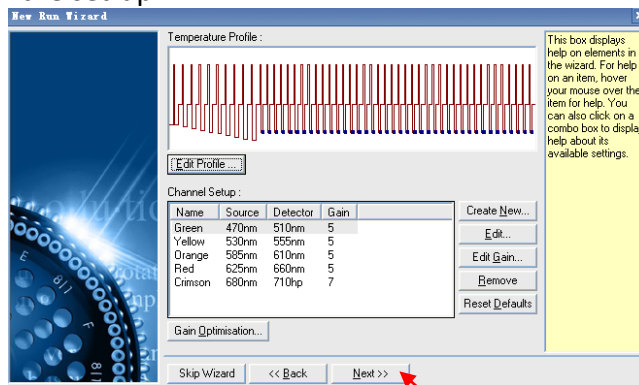
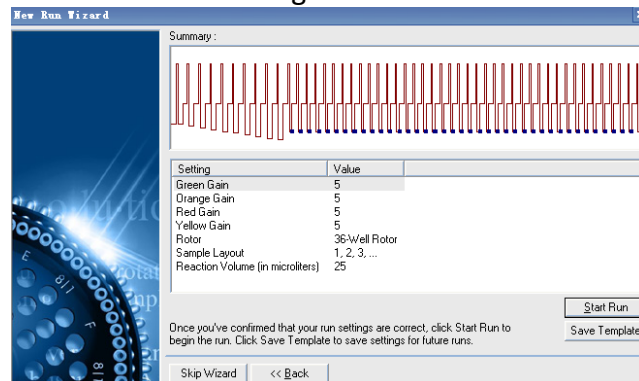

Figure 13
Figure 14
7. Click on “Next” (Figure 13) and “Start Run” (Figure 14) to save the file into the computer and finish the set-up.